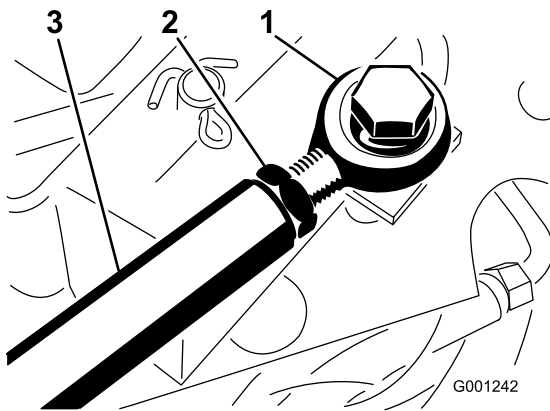

Figure 67
2. Mounting screw (4)
3. If more adjustment is required, adjust traction rod (Figure 67) as follows: